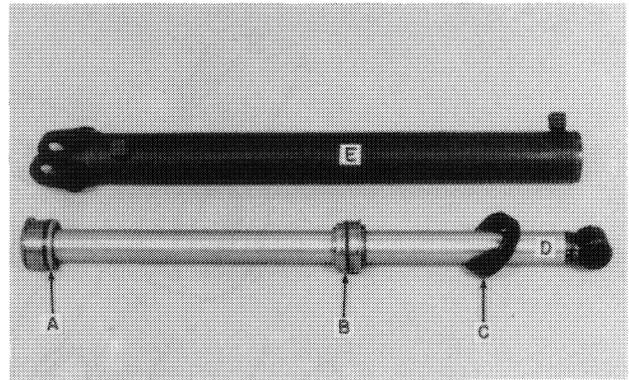

FIGURE 2-8
Figure 2-8 shows piston, A; cylinder head, B; head cap C; piston rod, D; and cylinder, E.
7. Put Loctite hydraulic sealant in the bore of the cylinder, A, Figure 2-8, and install as shown with the C. I. ring next to the nut.